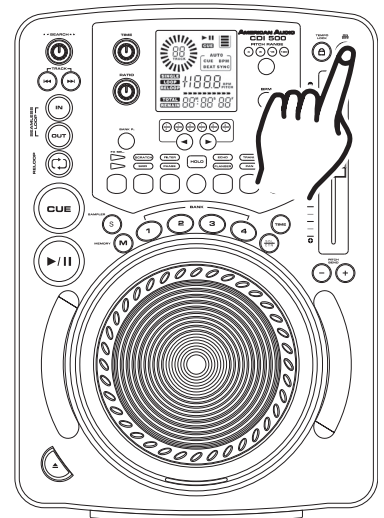
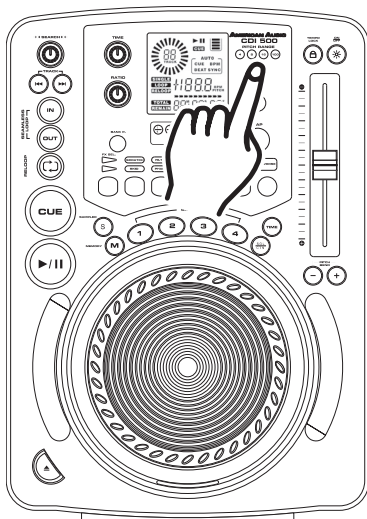

Figure 38
Figure 40
Adjusting the PITCH SLIDER'S RANGE (7): You may change the PITCH SLIDER'S (7) operating range at any time. To change the operating range be sure the pitch function is turned on, see figure 38. The pitch percentage range can be changed between +/-4%, +/-8%, +/-16%, and +/-100%. 4% will allow the least amount of pitch manipulation and 100% will allow the most amount of pitch manipulation. To adjust the different ranges, press the PITCH ON/OFF BUTTON (3) and tap on the PITCH RANGE BUTTON (1) until your desired value is reached, see figure 40.